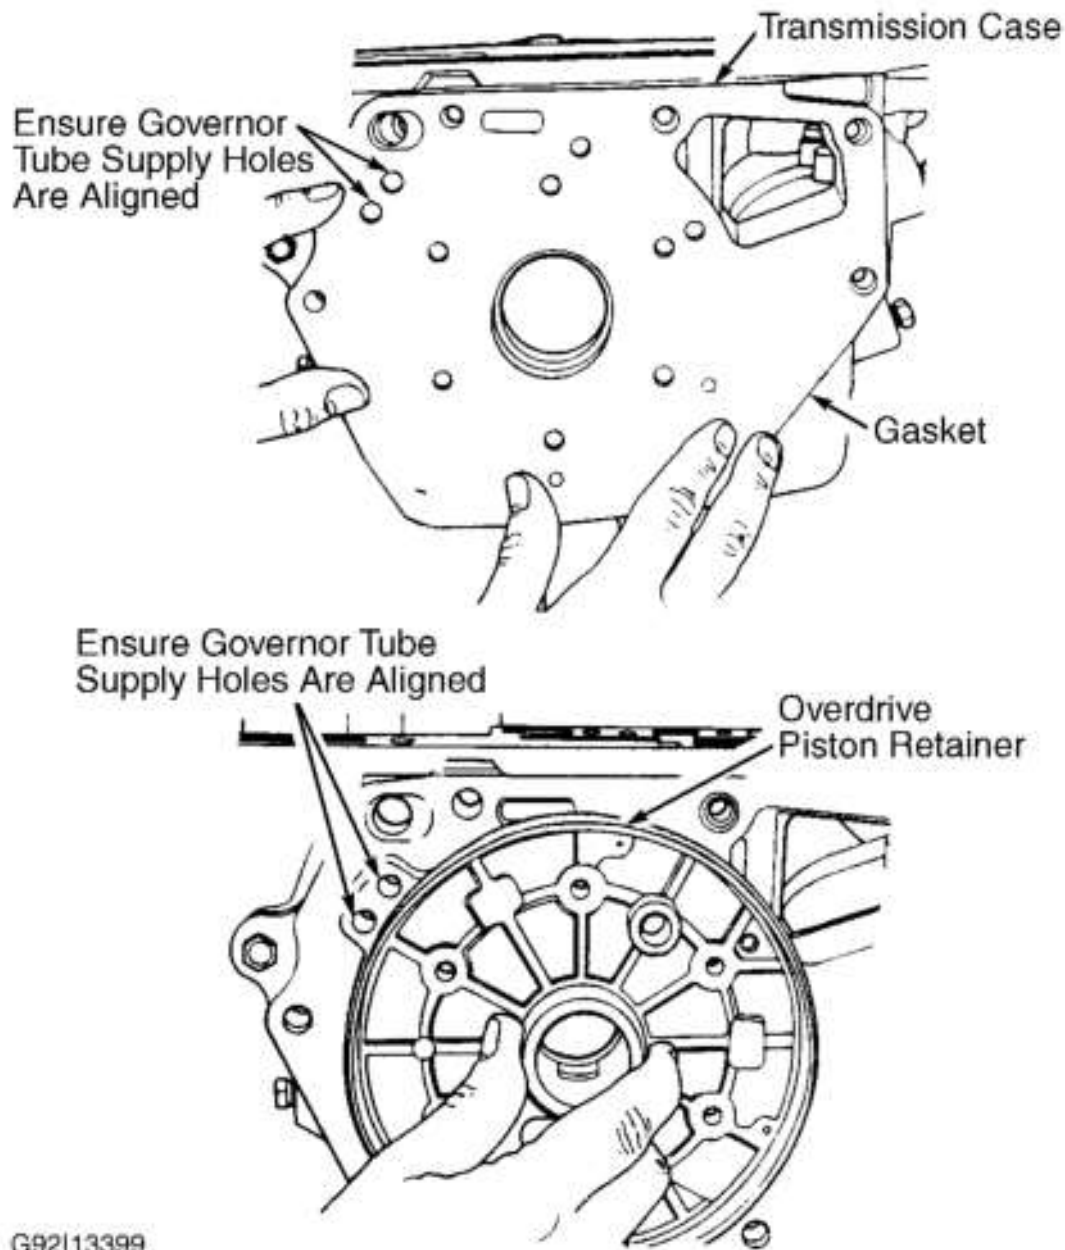

Fig. 39: Installing Gasket & Overdrive Piston Retainer
7. Install NEW gasket on rear of transmission case. Use petroleum jelly to hold gasket in place. Ensure governor tube supply holes on gasket align with holes on transmission case. See **Fig. 39** .
8. Install overdrive piston retainer and gasket on transmission case. See **Fig. 39** . Install and tighten retaining bolts to specification. See **TORQUE SPECIFICATIONS** .